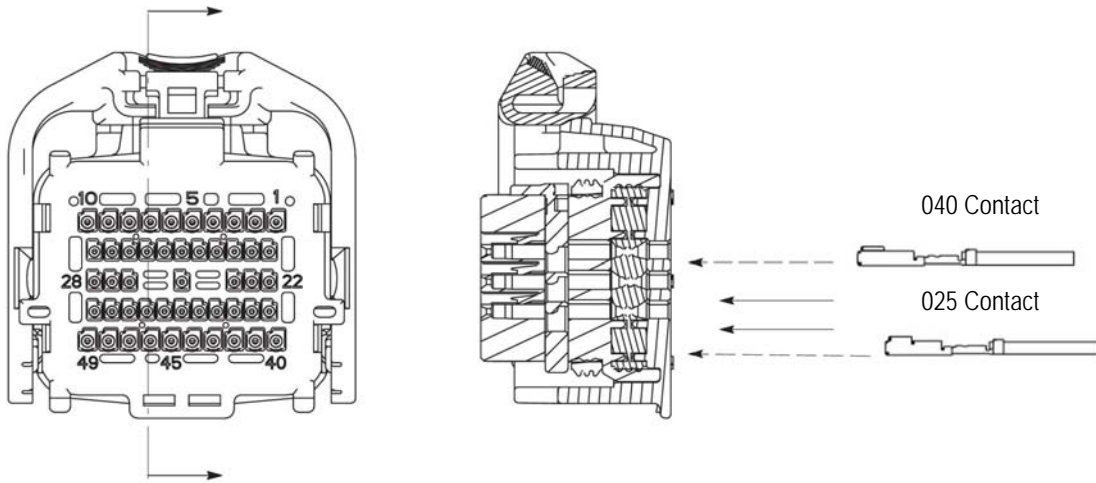

Figure 6
1. Insert the contacts into the housing in the same direction as shown in Figure 6. Insertion is complete when an audible "click" is heard, and forward movement of the contact stops.